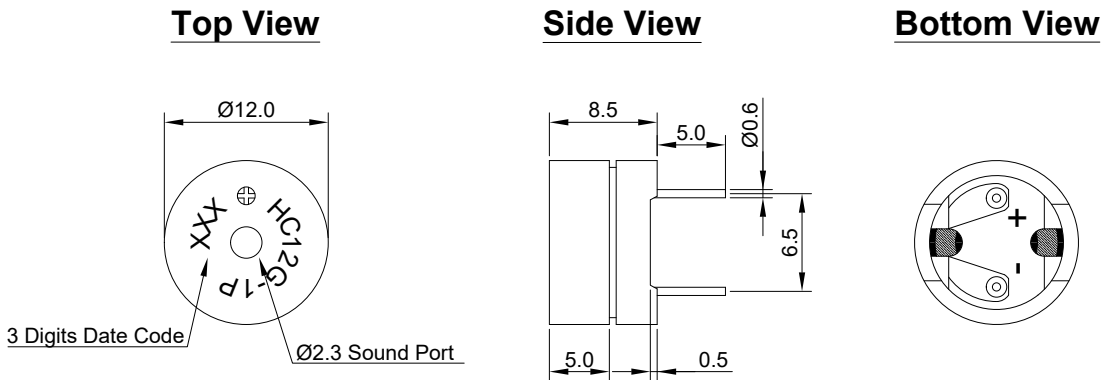

Figure 3. HC12G-1P/002 Mechanical Layout
- 4.3.1. Layout and Dimension : See Section 6, Figure 3